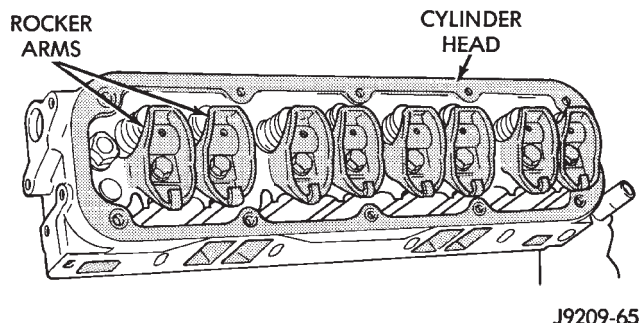

Fig. 18 Rocker Arms
- (1) Disconnect spark plug wires by pulling on the boot straight out in line with plug.
- (2) Remove cylinder head cover and gasket.
- (3) Remove the rocker arm bolts and pivots (Fig. 18). Place them on a bench in the same order as removed.
- (4) Remove the push rods and place them on a bench in the same order as removed.